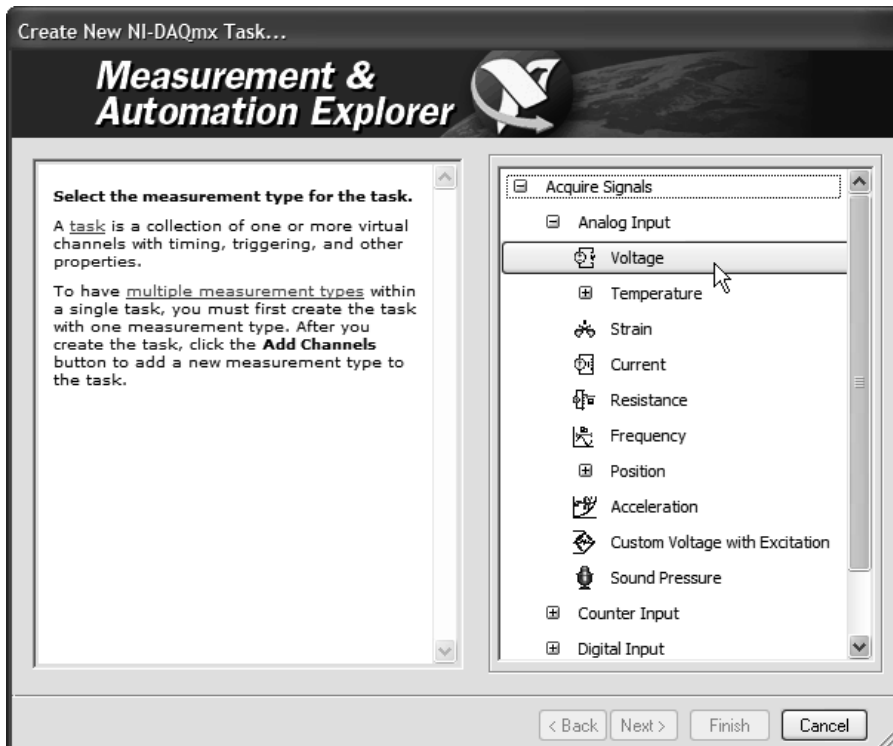

Figure 5.27
The Create Task dialog collects information in several steps. The first step is shown in Figure 5.27. This part of the dialog is used to provide basic information on what the task is designed to do.
2. The basic data to be collected are shown in the **Channel Settings** list. In this example, only one channel of AI will be used, and we indicated in Figure 5.27 that we would collect voltage values.
This is the same dialog as shown in Figure 5.27, except that the Title indicates that it has been called from the DAQ Assistant Express VI. The process to create a task is the same as before:
1. Provide basic information—we will acquire voltage values (see Figure 5.27).